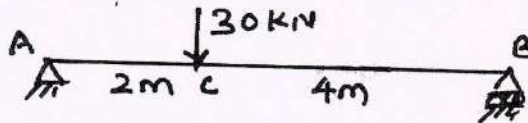

Fig Q4(b)
b. Using Conjugate beam method determine maximum slope and maximum deflection for the simply supported beam shown in Fig Q4(b). $E = 204 \times 10^6 \text{ kN/m}^2$ and $I = 50 \times 10^6 \text{ m}^4$.